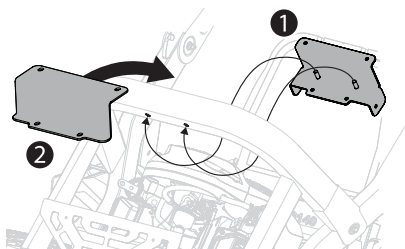

Figure 5
1. Working from the inside out, align keeper bracket (689-02519) with upper rear tube of tractor frame, sliding weld pins into existing holes on underside of tube. See (1) in Figure 5.
2. Working from outside in, align upper bracket (789-04458) with upper rear tube of tractor frame and keeper bracket, aligning upper and lower holes of both brackets. See (2) in Figure 5.